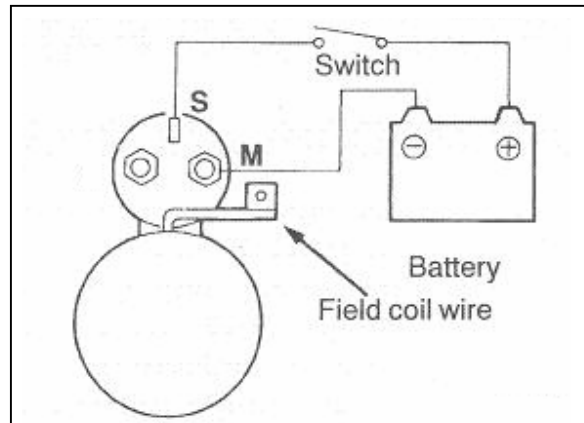

Fig. 9-6
2)Magnetic switch pull-in test(see Fig.9-6)